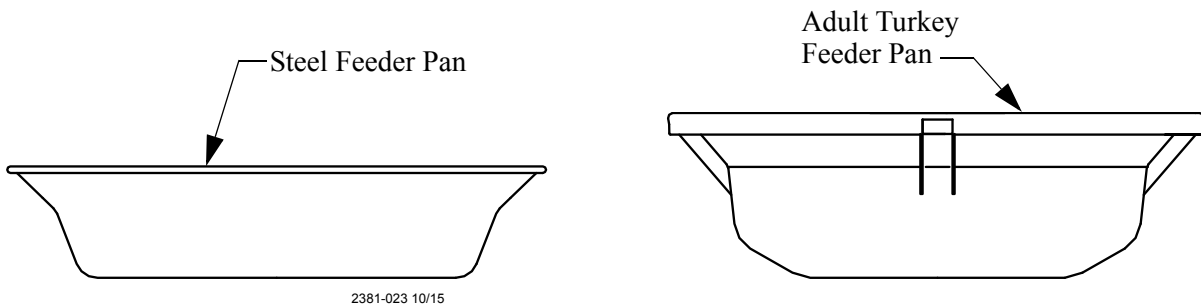

Figure 22. Feeder Pans
3. Determine which feeder pan (Adult Turkey or Steel) is to be installed, see **figure 22**.